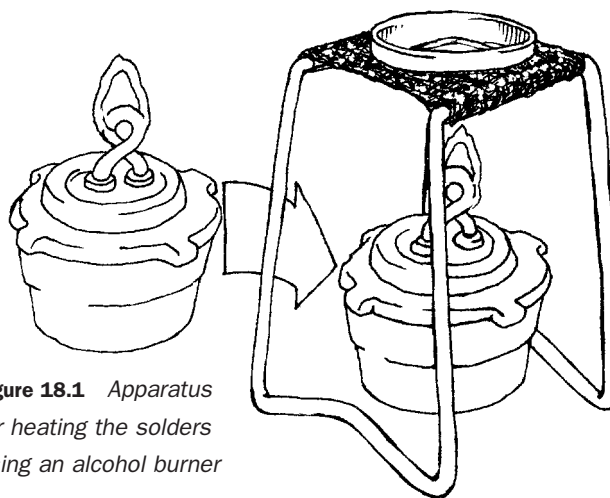

Figure 18.1 Apparatus for heating the solders using an alcohol burner
2. Set up the apparatus for the inquiry as shown in Figure 18.1. (The illustration for Figure 18.1 shows an alcohol burner in use. Your burners may differ from this one.) Explain that the substances students will investigate are mixtures of metals called solders.